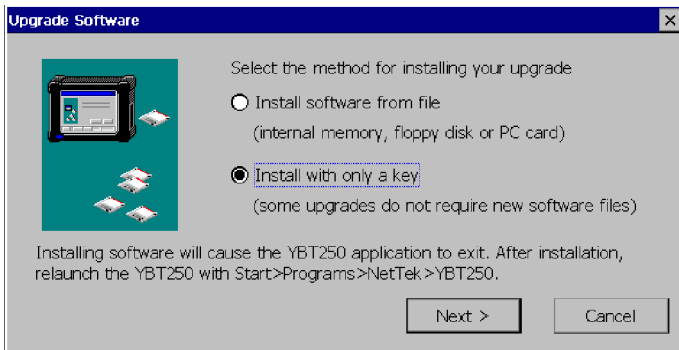

Figure D-3: Choosing the install method
3. To continue with a software upgrade, select **Install**. This displays the dialog shown in Figure D-3.